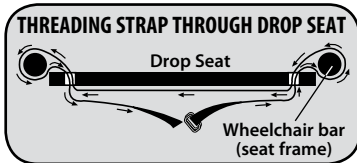

Fig. 1
3. Orient the Drop Seat to the wheelchair as shown in the photo. Wrap each end of the polypropylene straps (on each side of the chair) around the metal bar of the seat frame and thread back through the slot, pulling the ends toward the center of the Drop Seat (Fig. 1).